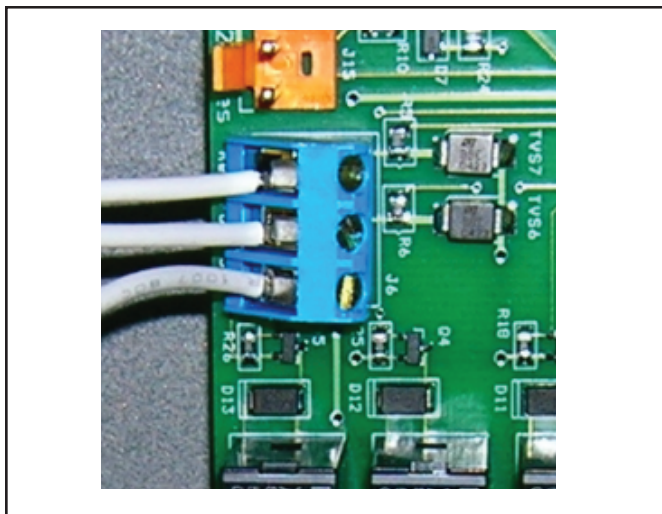

Figure 12a. Remote Pool-Off-Spa Connection (3-Wire Connection)
4. Connect the wiring from the pool/spa control system to the heat pump remote control terminal (see Figure 12a).